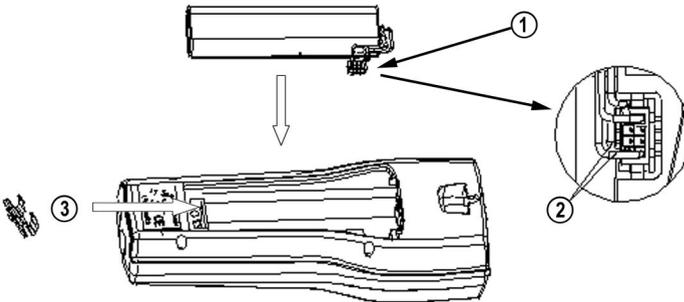

Figure 8 Installing the Battery Pack
3. Connect the black connector of the new battery pack. Make sure the position of the connector is as shown in Figure 8 below (red and black wires are on the upper edge of the connector). Do not push the connector with conducting material.